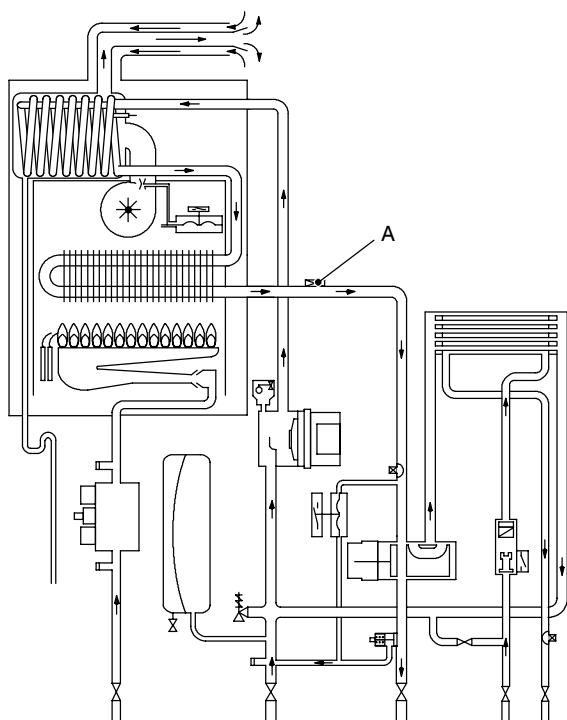
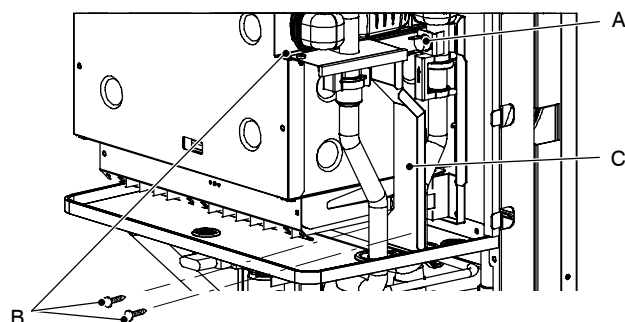

Fig. 84
Fig. 85
- 3 Remove the plate C (see Fig. 85 on page 37).
The safety thermostat *A* in Fig. 84 and Fig. 85 is a device that senses the temperature of the primary circuit water which flows in the outlet pipe of the primary heat exchanger.
- 2 Remove the screws *B* and the plate *C* (Fig. 85).
- 2 Remove the screw *B* and the plate *C* (Fig. 85).